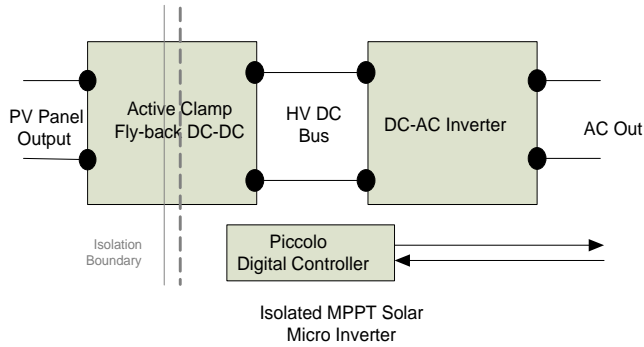

Figure 2 Micro inverter block diagram
The TMDSSOLARUINVKIT hardware consists of two stages: (1) an active clamp fly-back converter with secondary voltage multiplier and, (2) a DC-AC inverter. A block diagram of the kits is shown in Figure 2.